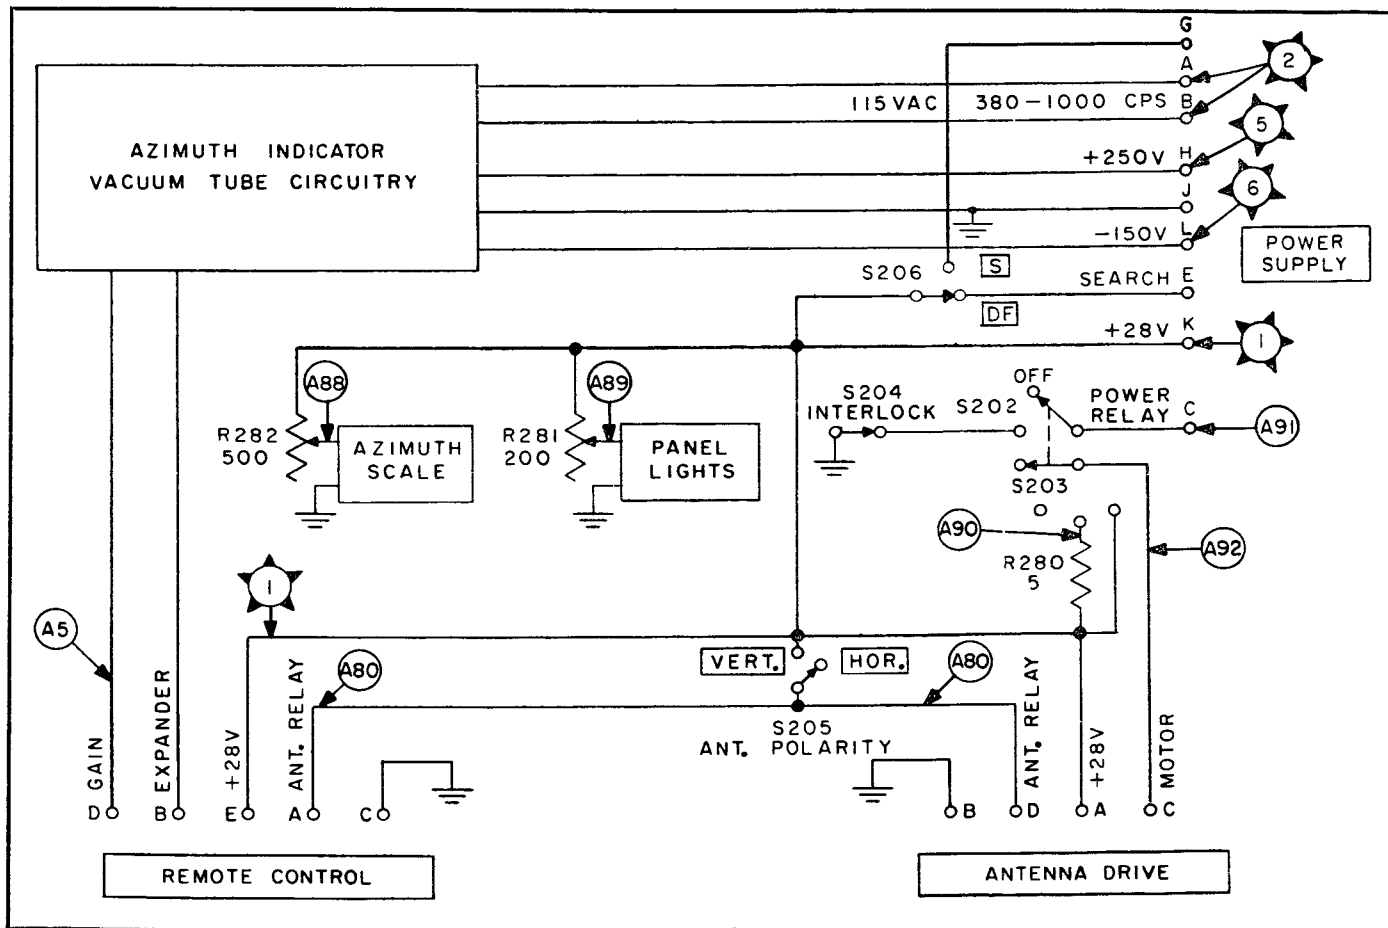

Figure 4-13. Azimuth Indicator Partial Schematic, Operational Switching and Power Circuitry
- h. Operational Switching and Power Circuitry (Figure 4-13).
4-63. OPERATIONAL SWITCHING AND POWER CIRCUITRY. (Figure 4-13.)
4-68. The DF-S switch, S206, is shown in figures 4-13 and 7-1 in the DF position. This is for normal operation of the Direction Finder Group, as described in Operating Instructions, AN16-30ALA6-1. When the switch is thrown to S, search position, +28 volts is disconnected from pin E and is connected to pin G of J201. This voltage is used to actuate auxiliary search equipment (not supplied with Direction Finder Group AN/ALA-6).
4-101. The Antenna Drive unit rotates the antenna at 150 or 300 rpm, (nominal) depending on the position of the ANT. SPEED control (master power switch) of the Azimuth Indicator unit. See figure 4-13 and paragraph 4-66 for details of antenna speed switch circuitry. Within the drive unit, means are provided to vary the rotational speed over a variation cycle of 100 antenna revolutions. The speed of rotation over the cycle varies from the set speed (150 or 300 rpm) to a speed of rotation approximately 15 percent less.